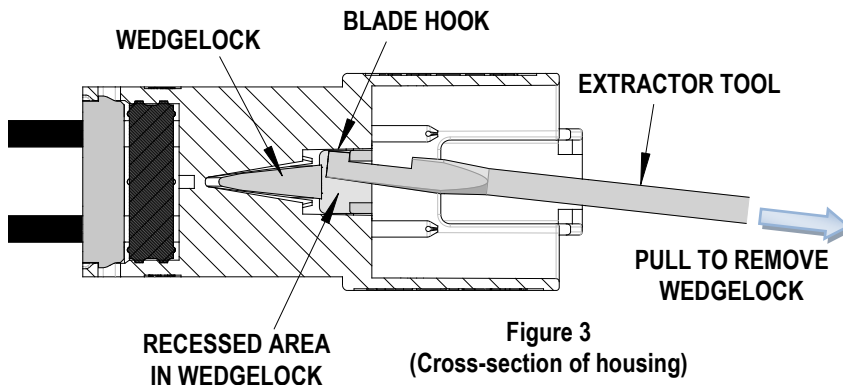

Figure 3
1. Position the blade of the insertion tool inside the connector so the blade hook engages the Wedgeloek as shown in Figure 3.